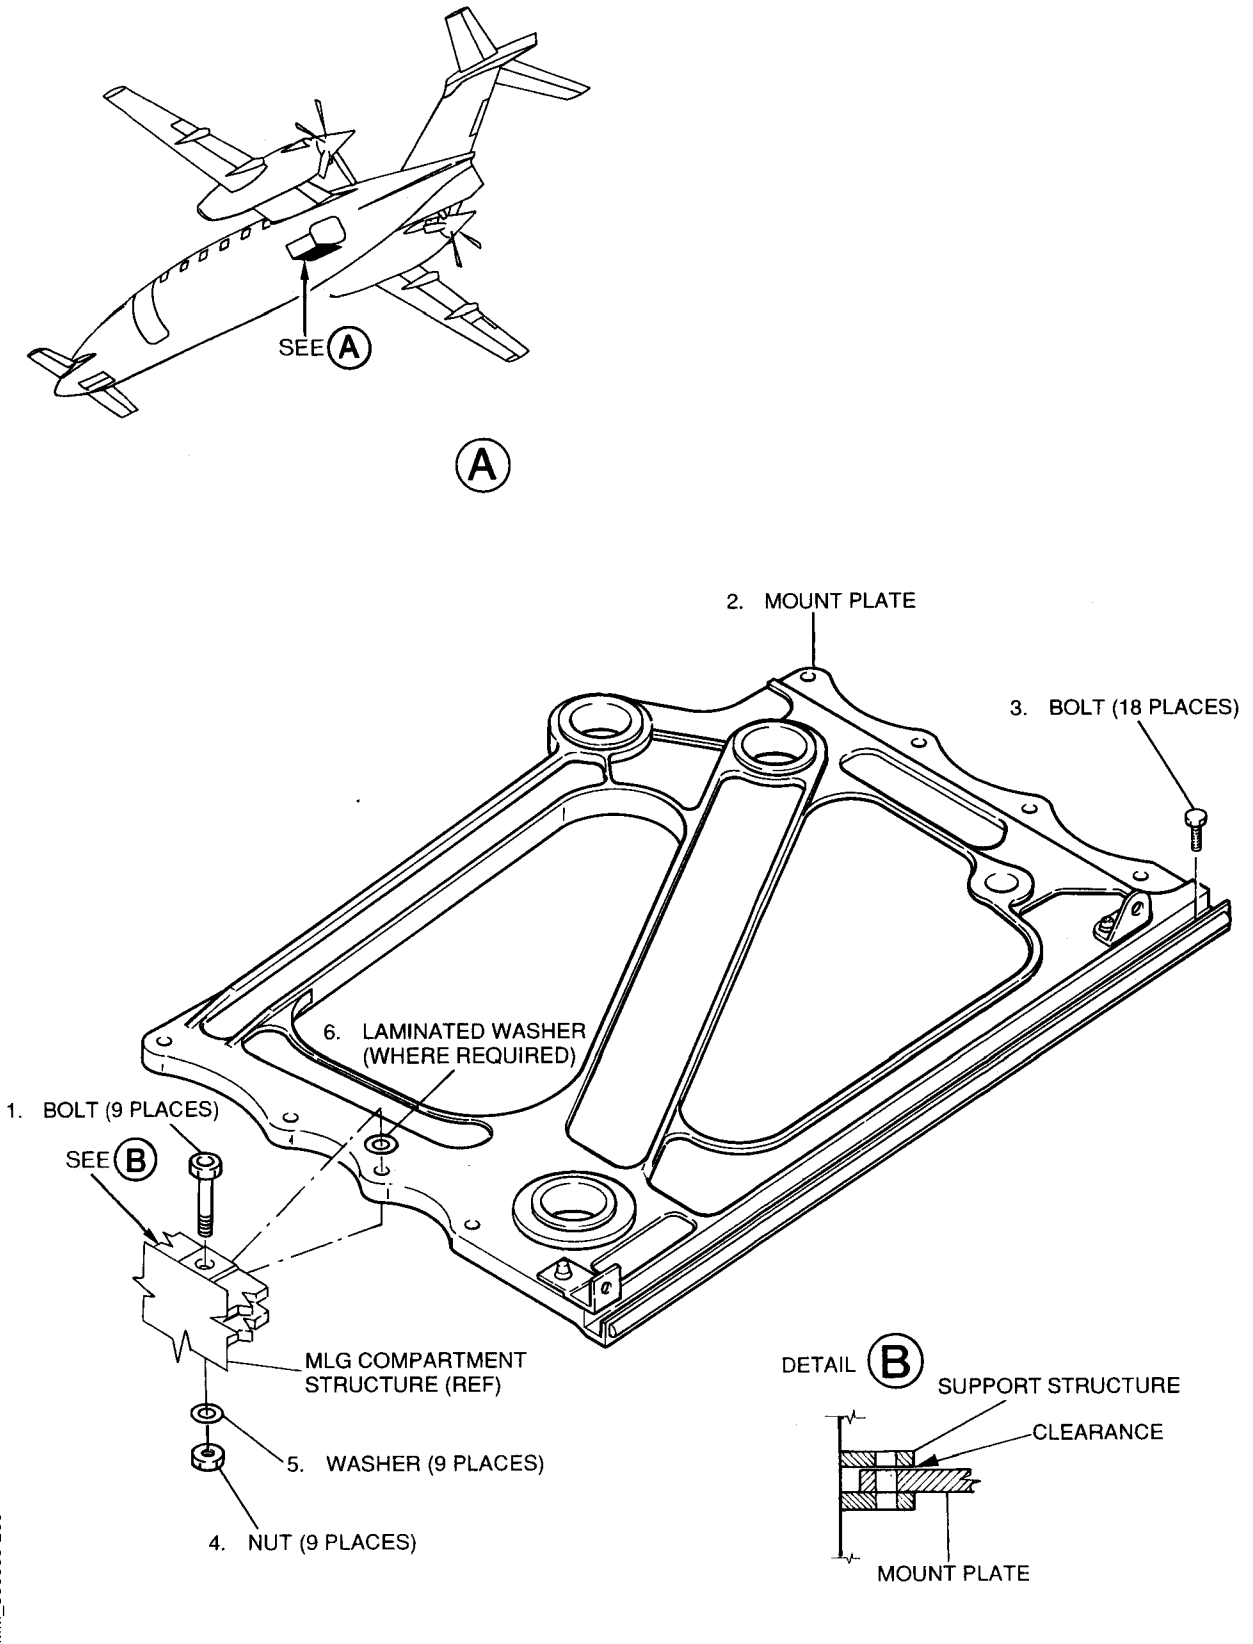

Fig. 206 - MLG Lower Mount Plate - Removal/Installation
13. MLG Lower Mount Plate - Removal (Ref. Fig. 206)
- (1) Remove the main landing gear (Refer to 32-11-00).
- (2) Remove the bolts (3).
- (3) Remove the bolts (1), nuts (4) and washers (5) attaching the mount plate (2) to the structure.
- (4) Remove the mount plate (2) and collect the laminated washers (6).
14. MLG Lower Mount Plate - Installation (Ref. Fig. 206)
- (1) Use the MEK and lint-free cloth to clean the interfaces of the mount plate and structure.
- (2) Put the mount plate (2) in the installed position.
- (3) Refer to Fig. 206, Detail B. Use feeler gauges to measure the clearance between the mount plate and support structure.
- (4) If the clearance in step (3) is more than 0.002 in (0.05 mm) install laminated washers at each bolt position to fill the gap. If the clearance is 0.002 in (0.05 mm) or less, no laminated washers are required.
- (5) Install the bolts (1), washers (5) and nuts (4).
- (6) Install the main landing gear (Refer to 32-11-00).